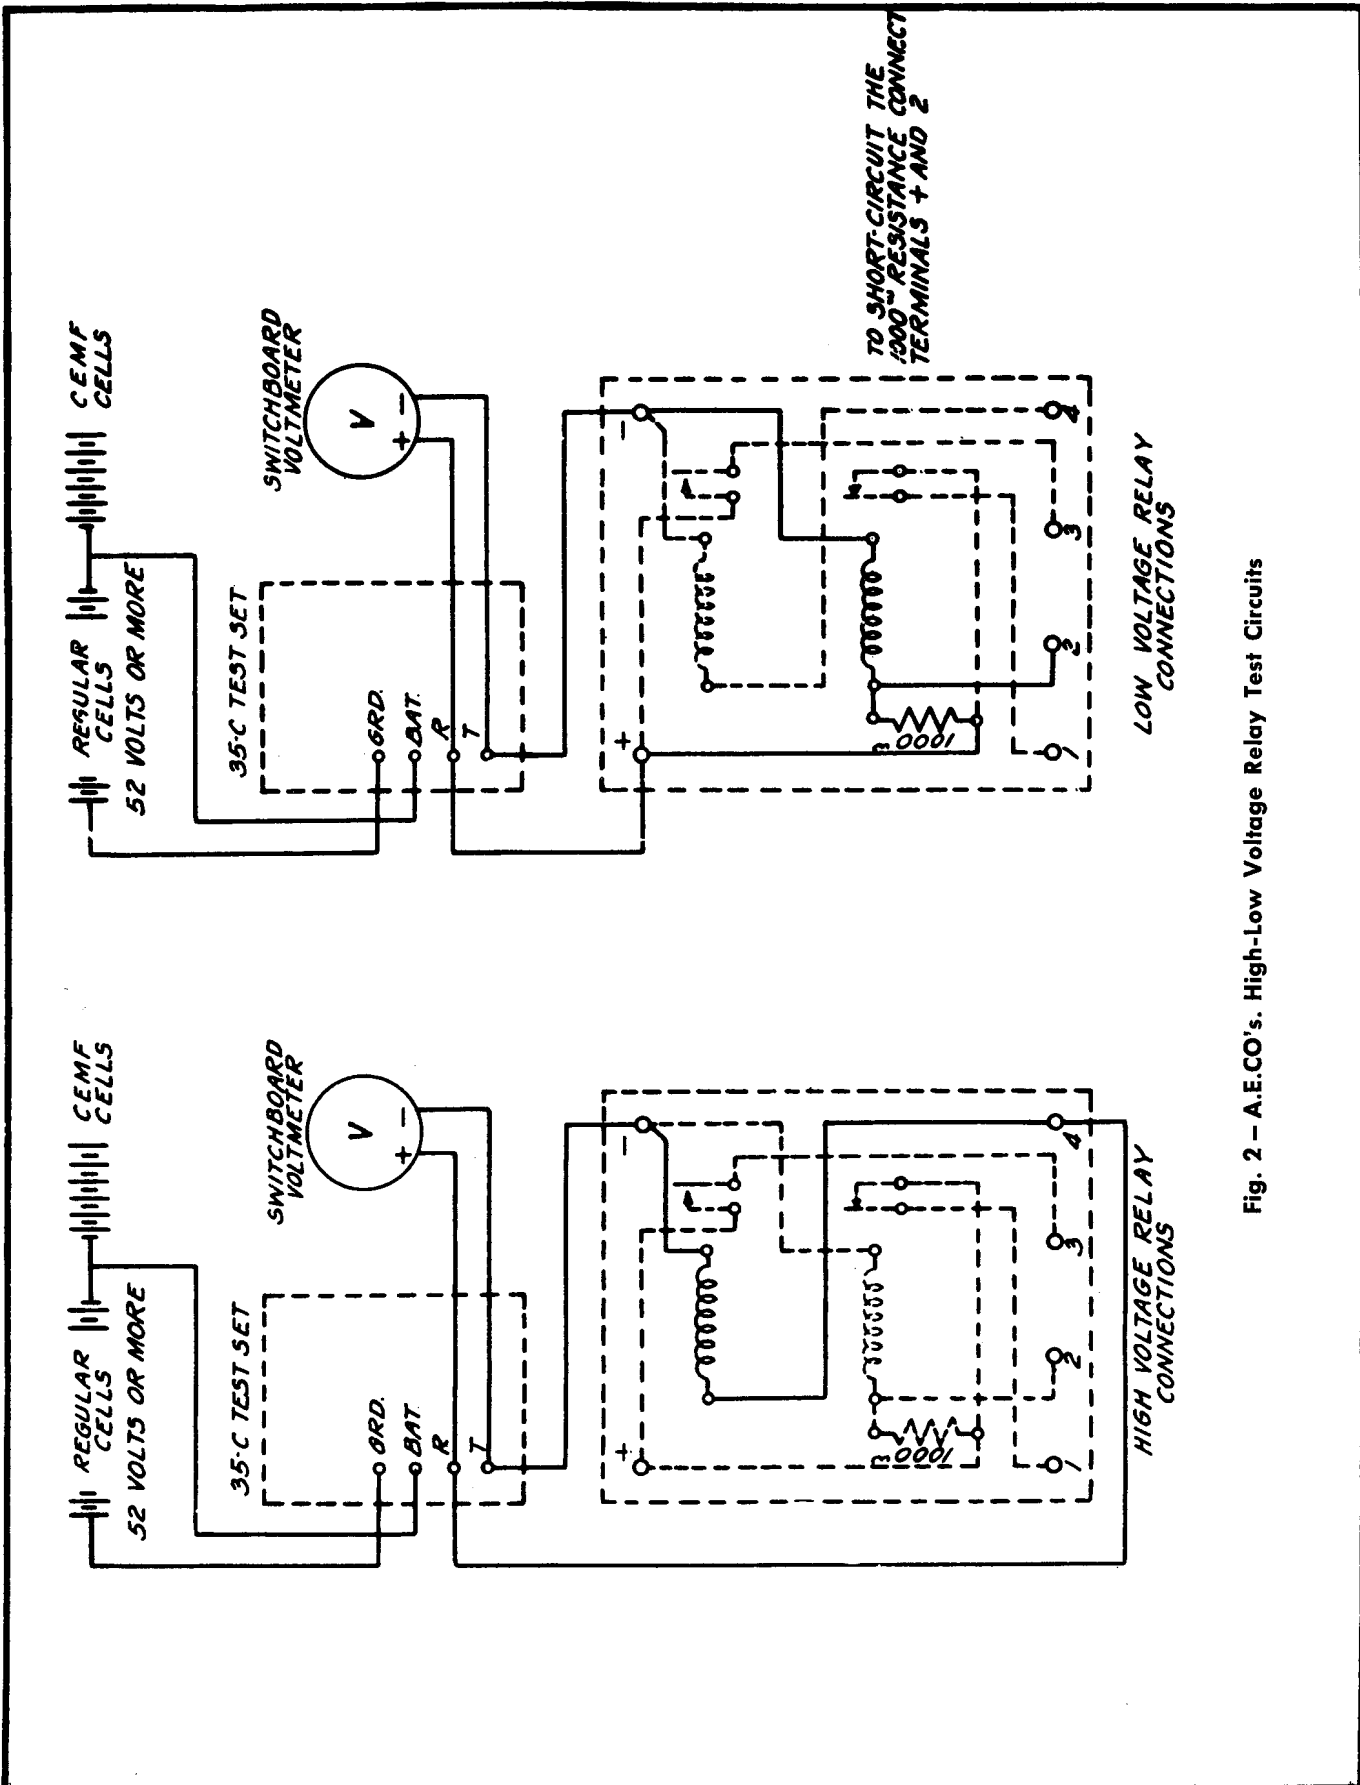

Fig. 2 - A.E.CO's. High-Low Voltage Relay Test Circuits
**3.10 Electrical Requirements:** The electrical requirements shall be met by adjusting the spring tension by means of the thumb screw. The connections given in Figure 2 shall be used for testing the relay. The 35-C test set shall be used to regulate the voltage.